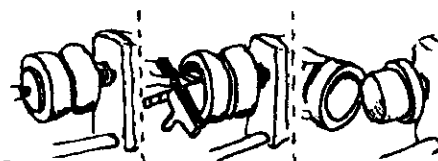

Figure 59
- The first step is to remove as much wood as possible by boring into the center with the largest wood bit available. This can be accomplished as illustrated in Figure 59. Be careful to measure in advance the depth to which drill can be allowed to go.